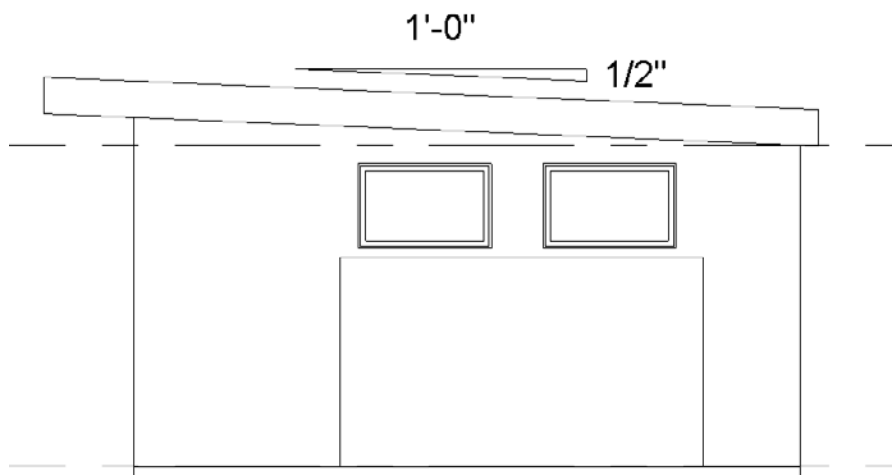

Figure 4.46
- **Spot Slope** displays the slope at a specific point on a face or an edge of an element (see Figure 4.46).